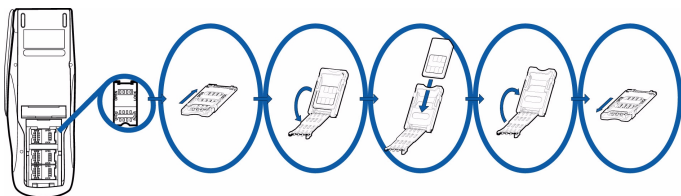

Figure 12 MSAM Card Installation
The three MSAM cardholders are now accessible. Each cardholder consists of a hinged tilt-up cover attached to a connector base (Figure 12).
- 3 Access the MSAM cardholders (reference Figure 12):